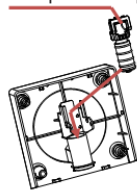
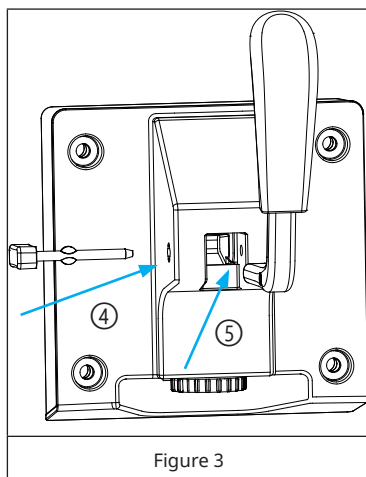

Figure 1
Figure 3
① Feed port upper cover	⑤ Handle tip
② Feed port base	⑥ Sealing ring
③ Feed port plug	⑦ Feed port sealing ring
④ Handle	⑧ Feed port cover
1. Insert ③ into ② as shown in Figure 1.
Follow the steps from Figure 1 to Figure 8 in reverse order.
Loosen the four counter-clockwise locking nuts and remove the handle assembly as shown in Figure 1. Check that the inside of the drum is clean, remove the mixing fan blade, wipe it with a damp cloth and re-insert the mixing blade after cleaning as shown in Figure 2. Fit the handle and handle assembly as shown in Figure 3. Tighten the nut clockwise as shown in Figure 4.